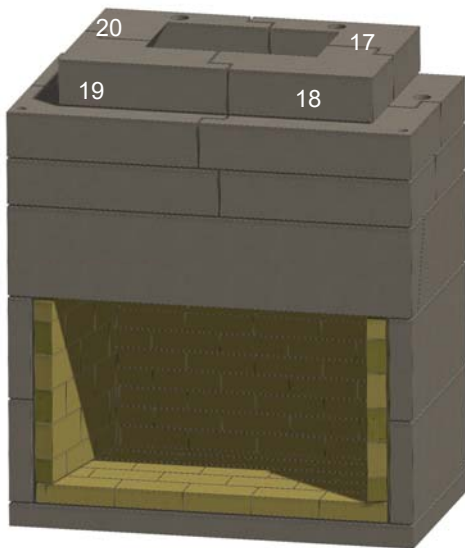

Figure 15. Upper Throat Level
K. Install the first smaller ring of throat components, consisting of items 17, 18, 19 and 20. Ensure the ring is centered. See Figure 15.